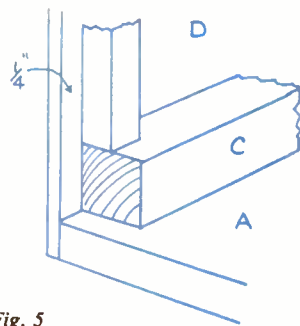

Fig. 5
Strip of the same section is used to strengthen the back edges of the sides and top (Fig. 5). It will be seen this is to the level of the edges of the 1 in. sparring (C), leaving a recess of $\frac{1}{2}$ in. depth for the back of the cabinet to rest in.